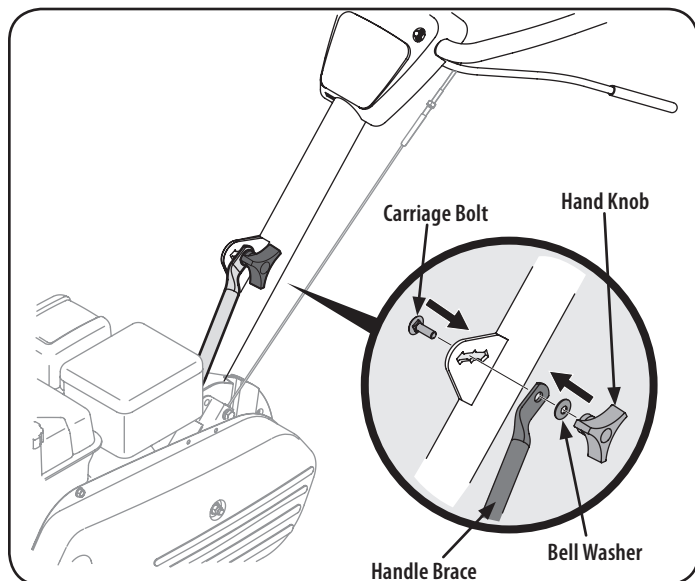

Figure 4
4. Tighten the bolt securely after securing the handle brace. See Figure 4.
6. Insert the carriage bolt through the welded bracket on the handle, bell washer, handle brace and into the hand knob. See Figure 4.
7. Select one of the three handle height positions (three notches in the welded handle bracket) and tighten the hand knob to secure the handle in the desired position. See Figure 4. Return to the lower handle and tighten the hex bolt securely.